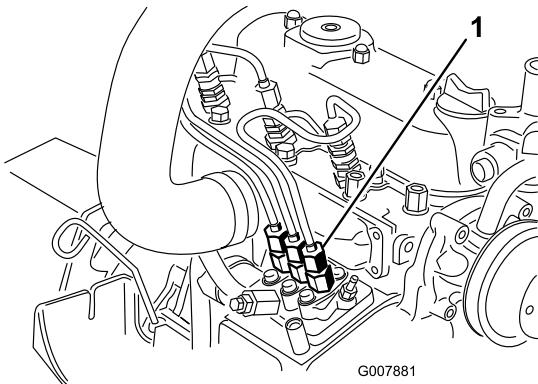

Figure 49
1. Place a rag under the pipe connection coming from the injection pump to the No. 1 injector nozzle as illustrated in Figure 49.